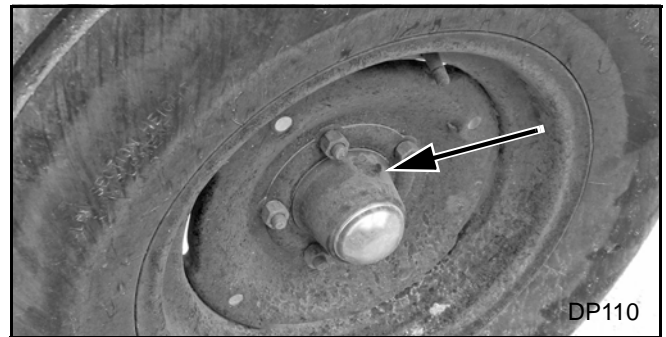

Figure 31. Wheel Bearings
2. Repack wheel bearings. See Figure 31.